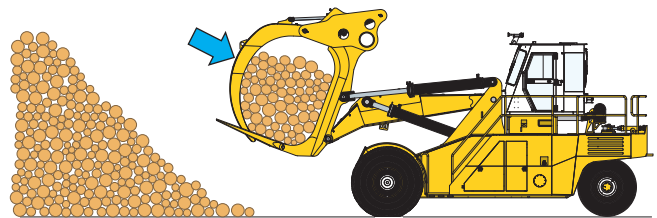

Figure 4-9-2
9. Before backing from the pile, the operator should actuate the hold-down long enough for the carriage to close tightly to prevent logs from spilling. (See Figure 4-9-2).